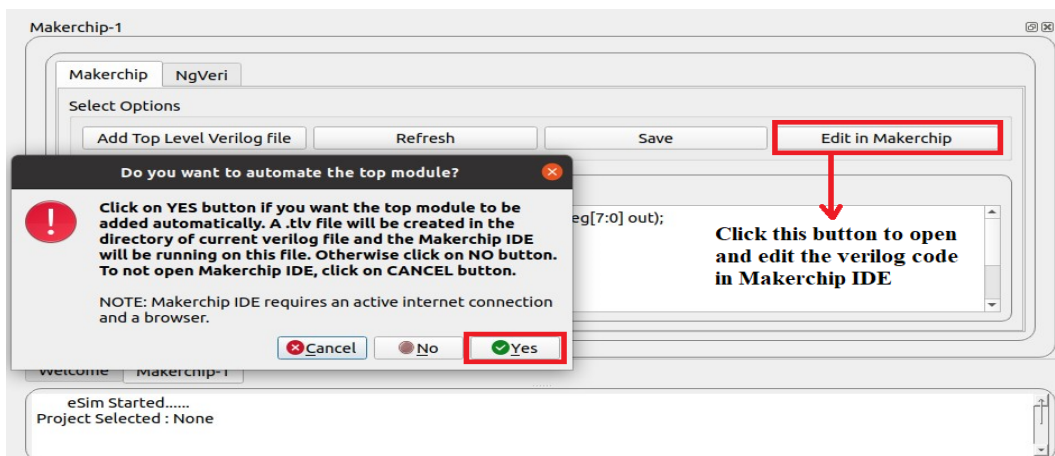
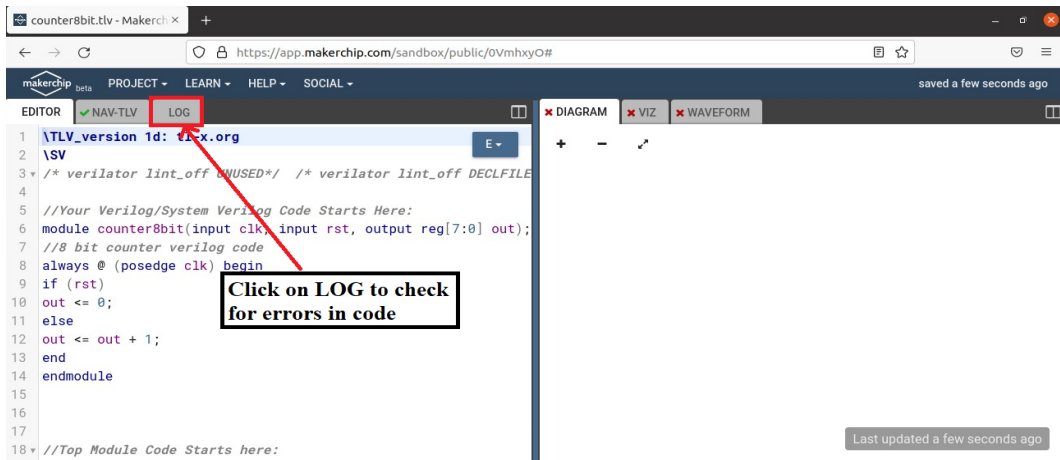
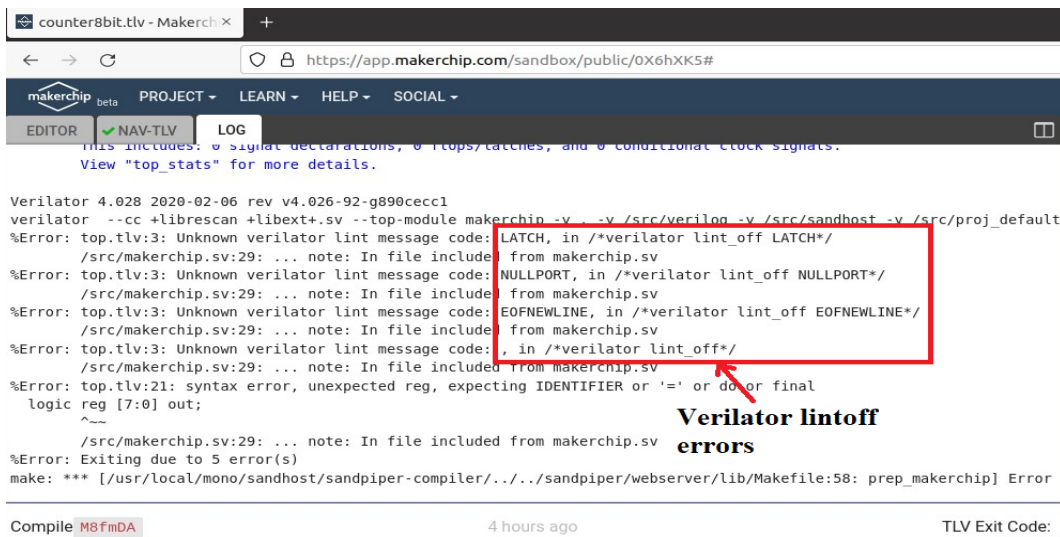
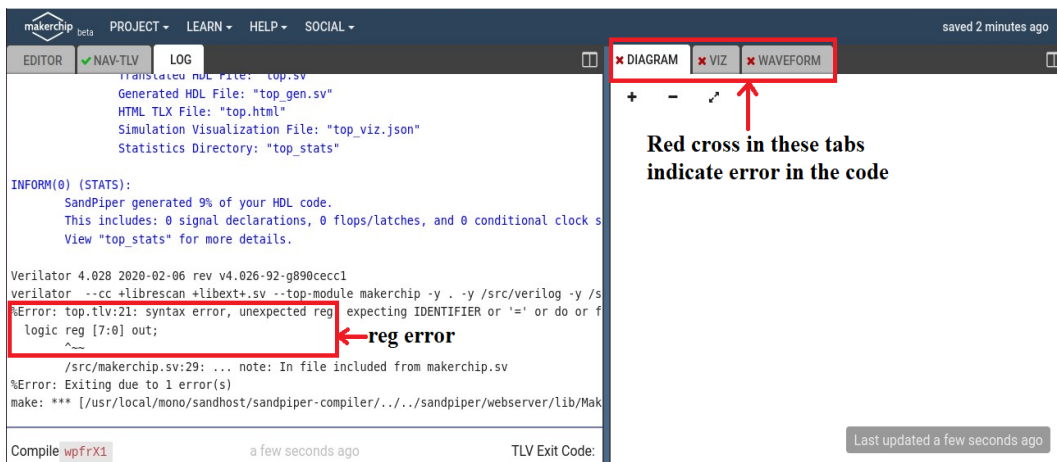

Figure 11.12: Opening Makerchip IDE
Figure 11.13: Makerchip IDE interface
Figure 11.14: Verilator lintoff errors
Figure 11.17: Unexpected reg error in the code
- Now click on **Edit in Makerchip** button to open and edit the verilog code in Makerchip IDE. A pop-up window will appear as shown in Fig. 11.12. By clicking on **Yes**, a top level verilog file i.e .tlv file will be created in the same directory of current verilog file and the Makerchip IDE will be run in a new web browser as shown in Fig. 11.13. By clicking on **No**, the current raw verilog file i.e .v file will open up in Makerchip IDE web browser.
11. User can check for errors by clicking on **LOG** tab in Makerchip IDE interface as shown in the Fig. 11.13. Following window will appear as shown in Fig. 11.14, where you can check the Verilator lint-off errors.
12. As shown in the Fig. 11.14, verilator lint-off commands which caused error in the Log section needs to be removed from Line 3 in the editor window. Two such commands which needs to be removed are shown in the Fig. 11.15.
- After compiling, **Unexpected reg error** remains in the Log section (Refer Fig. 11.17) which can be rectified by removing *reg* from top level verilog code as shown in Fig. 11.18. By clicking **Yes** button in Fig. 11.12, a Top Level Verilog (TLV) code automatically gets added in the editor. Refer Fig. 11.18. The value of *rst* value is by default as random value and it can be replaced if user wants to assign values. We have assigned *rst* with *reset* in this counter example.